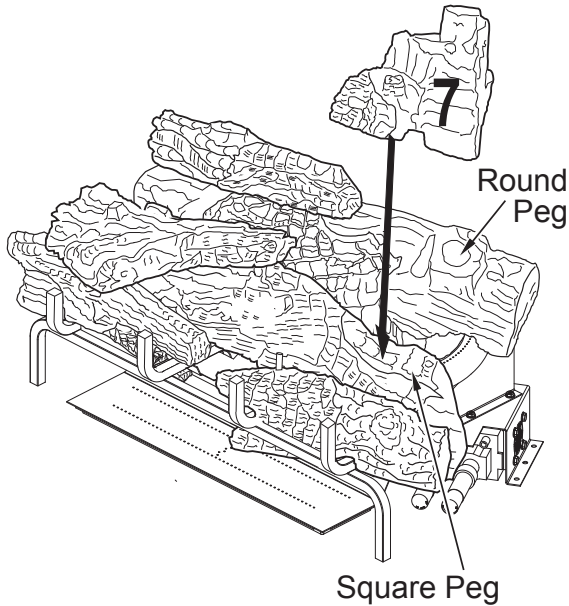

Figure 44 - Installing Log #7
7. Place the right rear chunk log (#7) on top of the middle log (#2) and rear log (#1) as shown in **Figure 44, Page 22**. Match the round peg on the top of the rear log (#1) with the round hole on the bottom of the right rear chunk (#7) log and square peg on the top of the middle log (#2) with the square hole on the bottom of the right rear chunk log (#7).